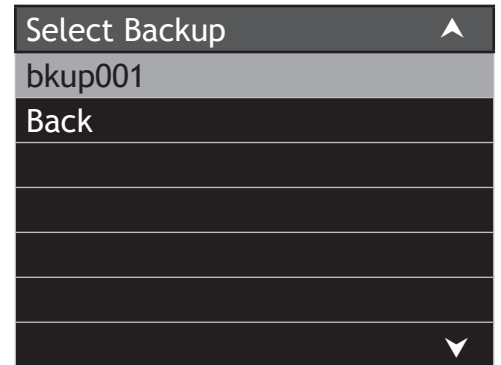

Figure 96
8. Using the Down▼ Push-button to highlight “Select Backup” and press the SELECT Push-button. Refer to figure 96.